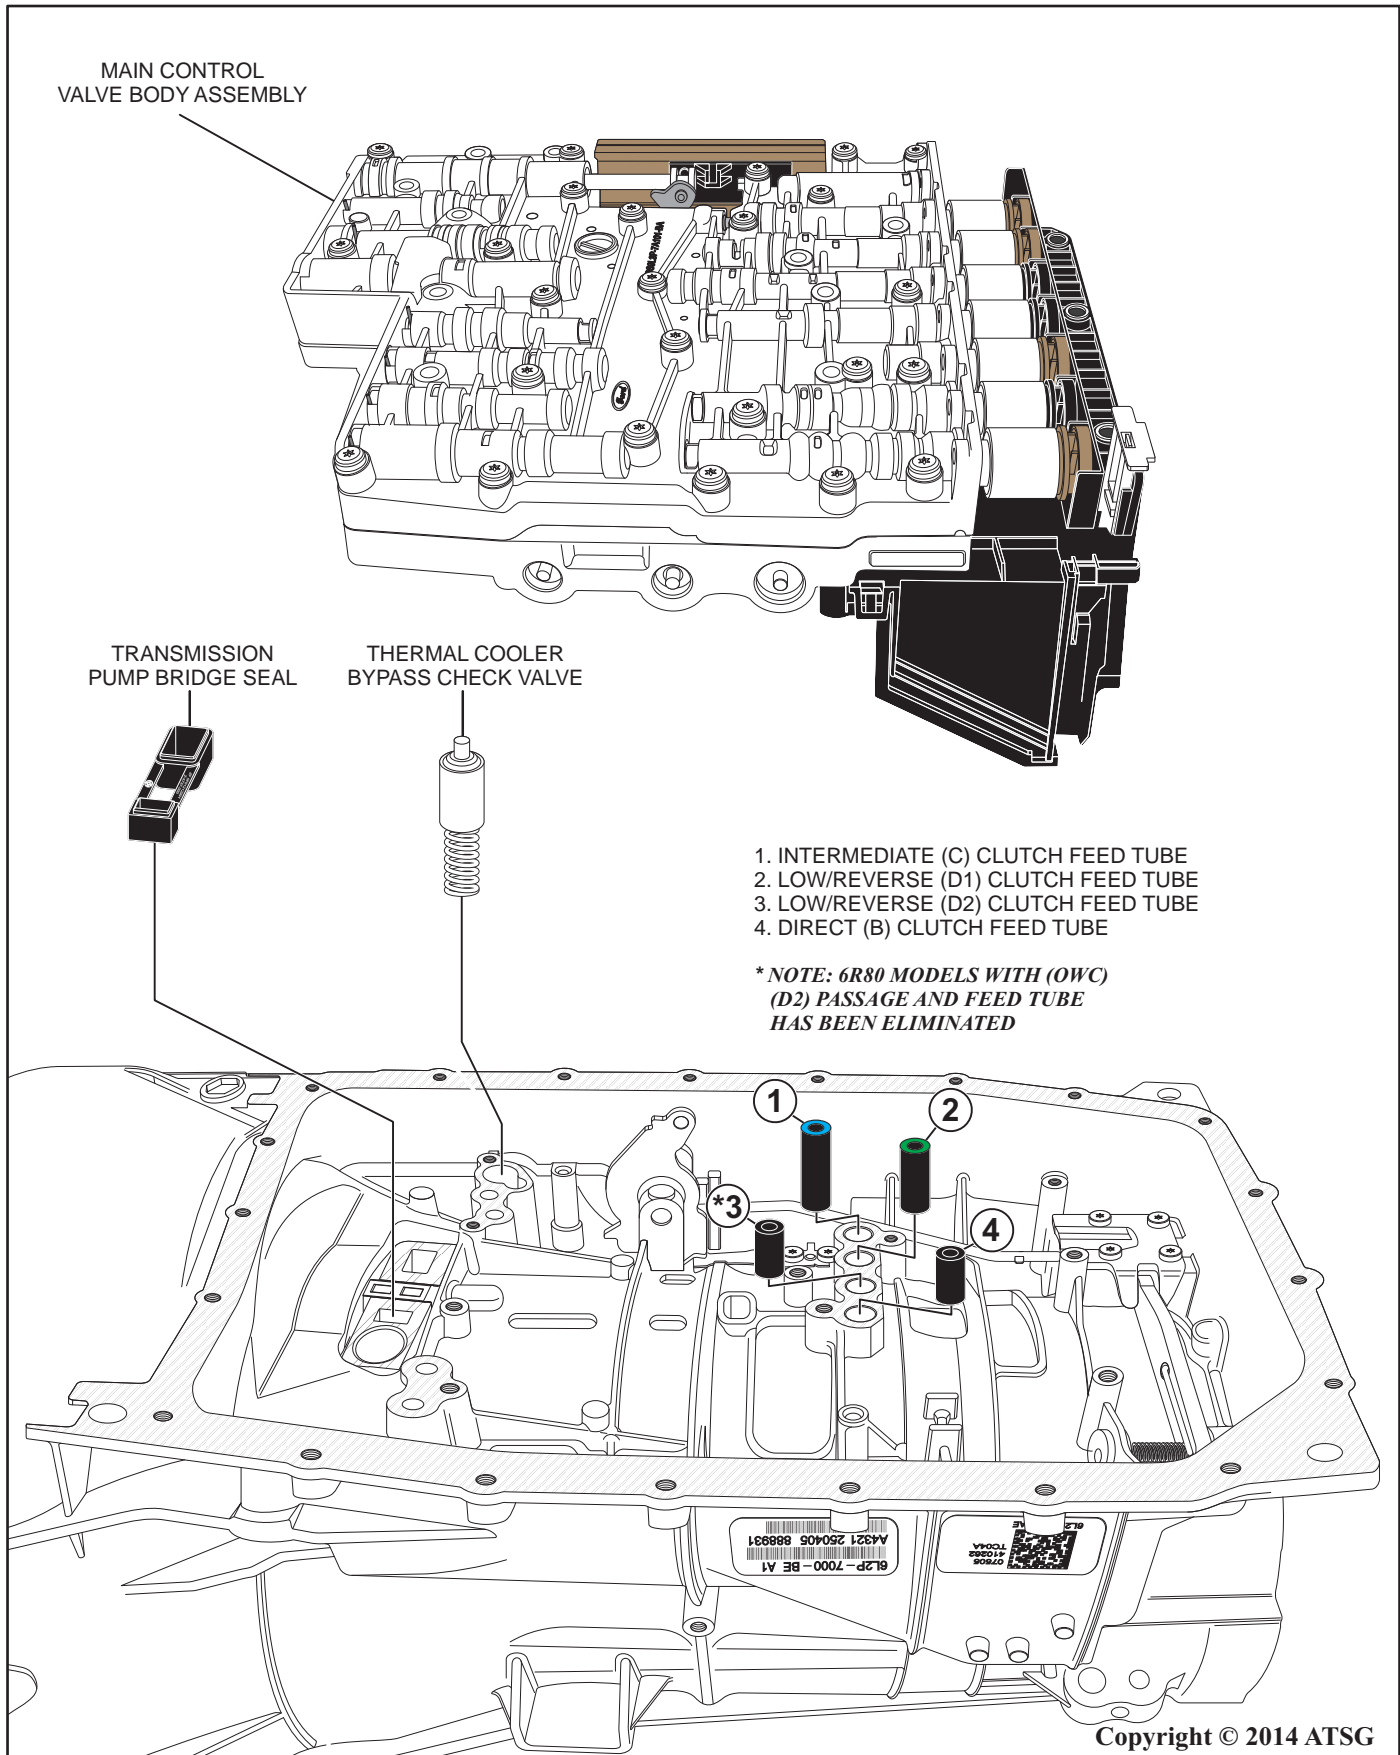

Figure 40
10. Carefully lift and remove the control valve body assembly from the transmission case as shown in Figure 40. Set the control valve body assembly aside for disassembly and cleaning.
11. Remove the transmission pump bridge seal, inspect for any damage and discard if any damage is evident as shown in Figure 40.
12. Remove the thermal cooler bypass valve from the transmission case as shown in Figure 40.
13. Remove the feed tubes from the transmission case as shown in Figure 40.
Note: The feed tubes are color coded and have different lengths. Observe the lengths and colors as shown in Figure 40.